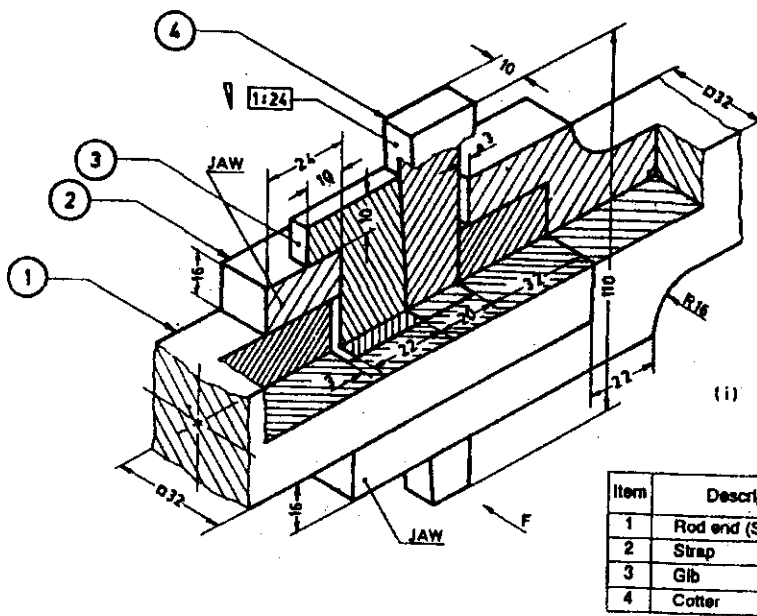

Fig. 1
- II. Draw the views as directed below of a GIB and COTTER JOINT for rectangular rods as given in figure 1.